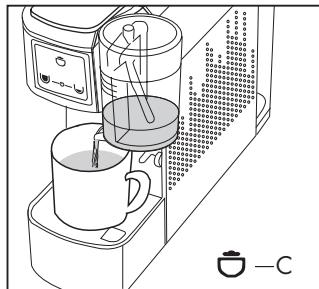

Fig. 14
- Press the button (C) ; the machine will dispense foamed milk. (**Fig. 14**)
- Fill the beaker (13) with the desired amount of milk, press and hold down the button (C)  to regulate the dispensing of hot milk for cappuccino, release the key when the desired amount is reached; in this way, the dose is stored for future use (**Fig. 14**)